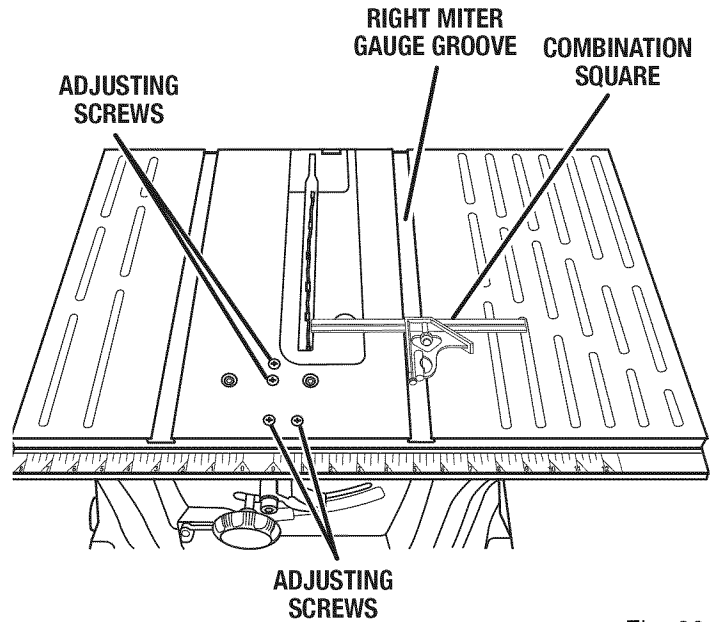

Fig. 33
See Figures 33 - 35.
- Mark beside one of the blade teeth at the front of the blade. Place a combination square even with the front of the saw table and the side of the saw blade as shown in figure 33.